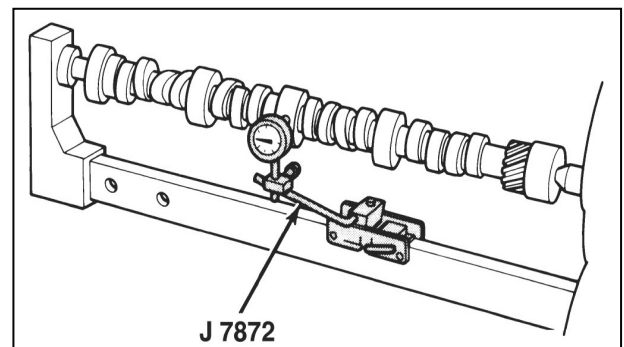

Figure 12-42 Measuring Camshaft Runout
- Camshaft runout (figure 12-42). Mount the camshaft in V-blocks or between centers. Using J 7872, check the intermediate camshaft journal. Compare camshaft runout with “Specifications”. If the camshaft is excessively bent, replace the camshaft and camshaft bearings.